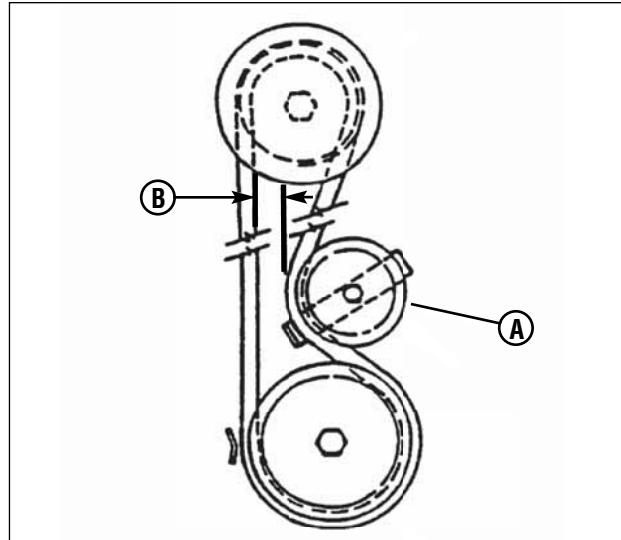

Figure 22: Measuring the belt spacing
5. 28" and 30" Decks \*: Measure the belt spacing at the idler pulley (**A**, **Figure 22**). The belt spacing (**B**) should be 1-1/4" but no less than 1". If the measurement is less than 1", the belt tension should be adjusted. Refer to the section entitled "BLADE DRIVE BELT ADJUSTMENT".